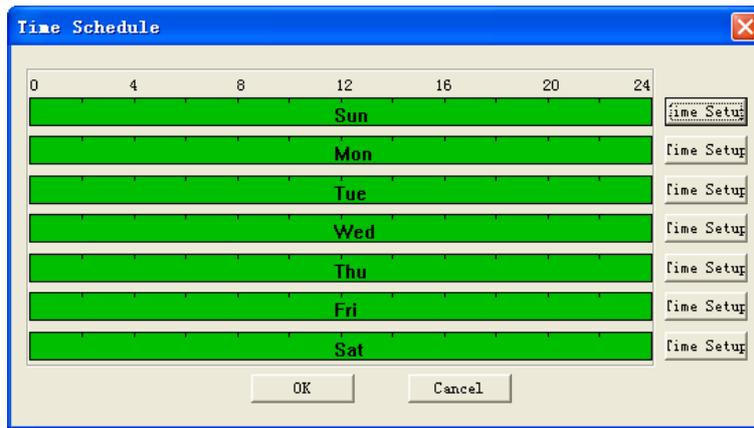
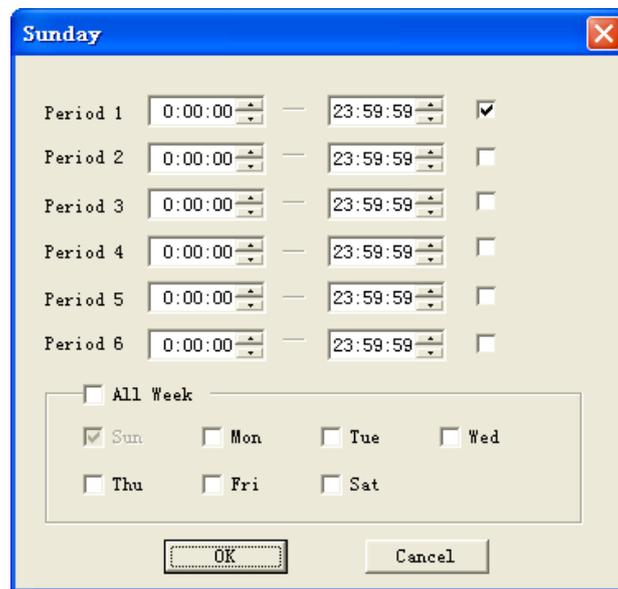

Figure 6-39
Figure 6-40
- ✧ Period: Here is for you to set record period. Click set button, you can see an interface is shown as in Figure 6-39. In Figure 6-39, click time set button, you can see an interface is shown as in Figure 6-40. Here you can set time period.